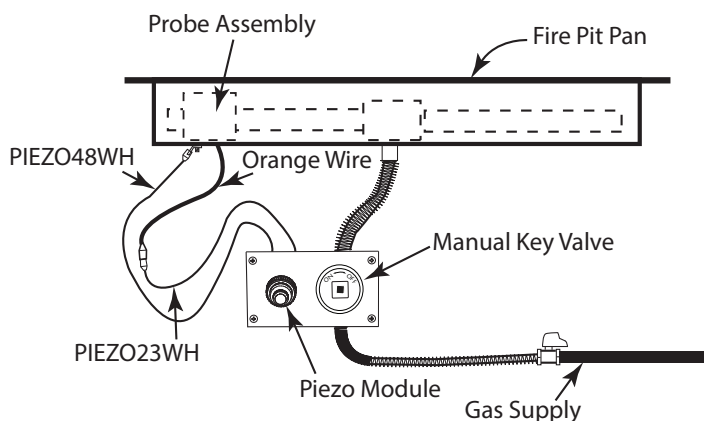

Fig. 16 Wiring diagram PAVER-CP-MT-MSI.
PRECAUTION: If you are installing the MSI (Manual Spark Ignition) ensure the PAVER-CP-MT-MSI control panel is within 40-inches of the 2-probe Piezo ignitor. This will allow enough "play" in the wires to make your connections. See Fig. 16 on page 5.
Step 8: Attach the 1/4" end of extension wire (PIEZO23WH) to the orange ignitor wire and attach the 1/4" wire end (PIEZO48WH) wire to ground tab under the burner pan. See Fig. 16.